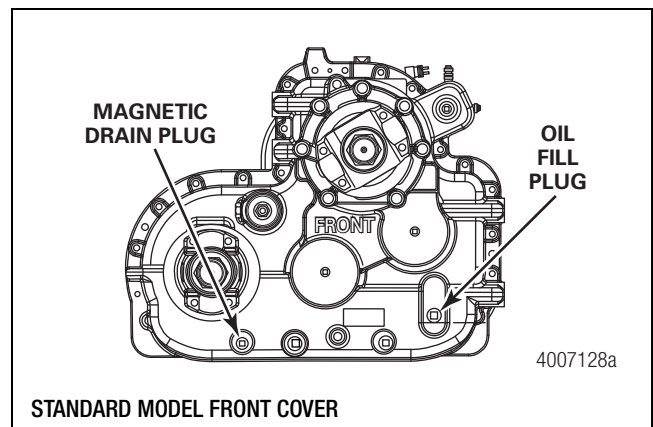

Figure 10.5
3. Clean the area around the fill plug. Remove the fill plug from the transfer case. Figure 10.5. The oil level must be even with the bottom of the fill plug hole.
2. Remove the magnetic drain plug from the bottom of the transfer case. Drain and discard the oil correctly. Clean the plug. Figure 10.5.